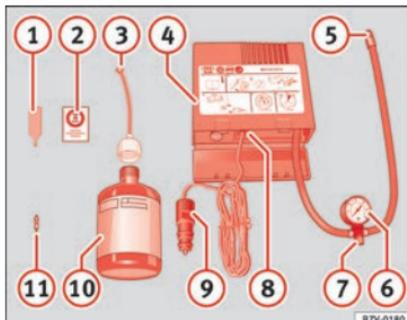

Fig. 64 Standard representation: contents of the anti-puncture kit.
- Unscrew the tyre valve cap and insert. Use the » **Fig. 64 1** tool to remove the insert. Place it on a clean surface.
- Shake the tyre sealant bottle vigorously » **Fig. 64 10**.
- Screw the inflator tube » **Fig. 64 3** into the sealant bottle. The bottle's seal will break automatically.
- Remove the lid from the filling tube » **Fig. 64 3** and screw the open end of the tube into the tyre valve.
- Place the insert back into the tyre valve using the tool » **Fig. 64 1**.
- Screw the compressor tyre inflator tube » **Fig. 64 5** into the tyre valve.
- Check that the air bleed screw is closed » **Fig. 64 7**.
- Insert the connector » **Fig. 64 9** into the vehicle's 12-volt socket »  page 172.
- Turn the air compressor on with the ON/OFF switch » **Fig. 64 8**.